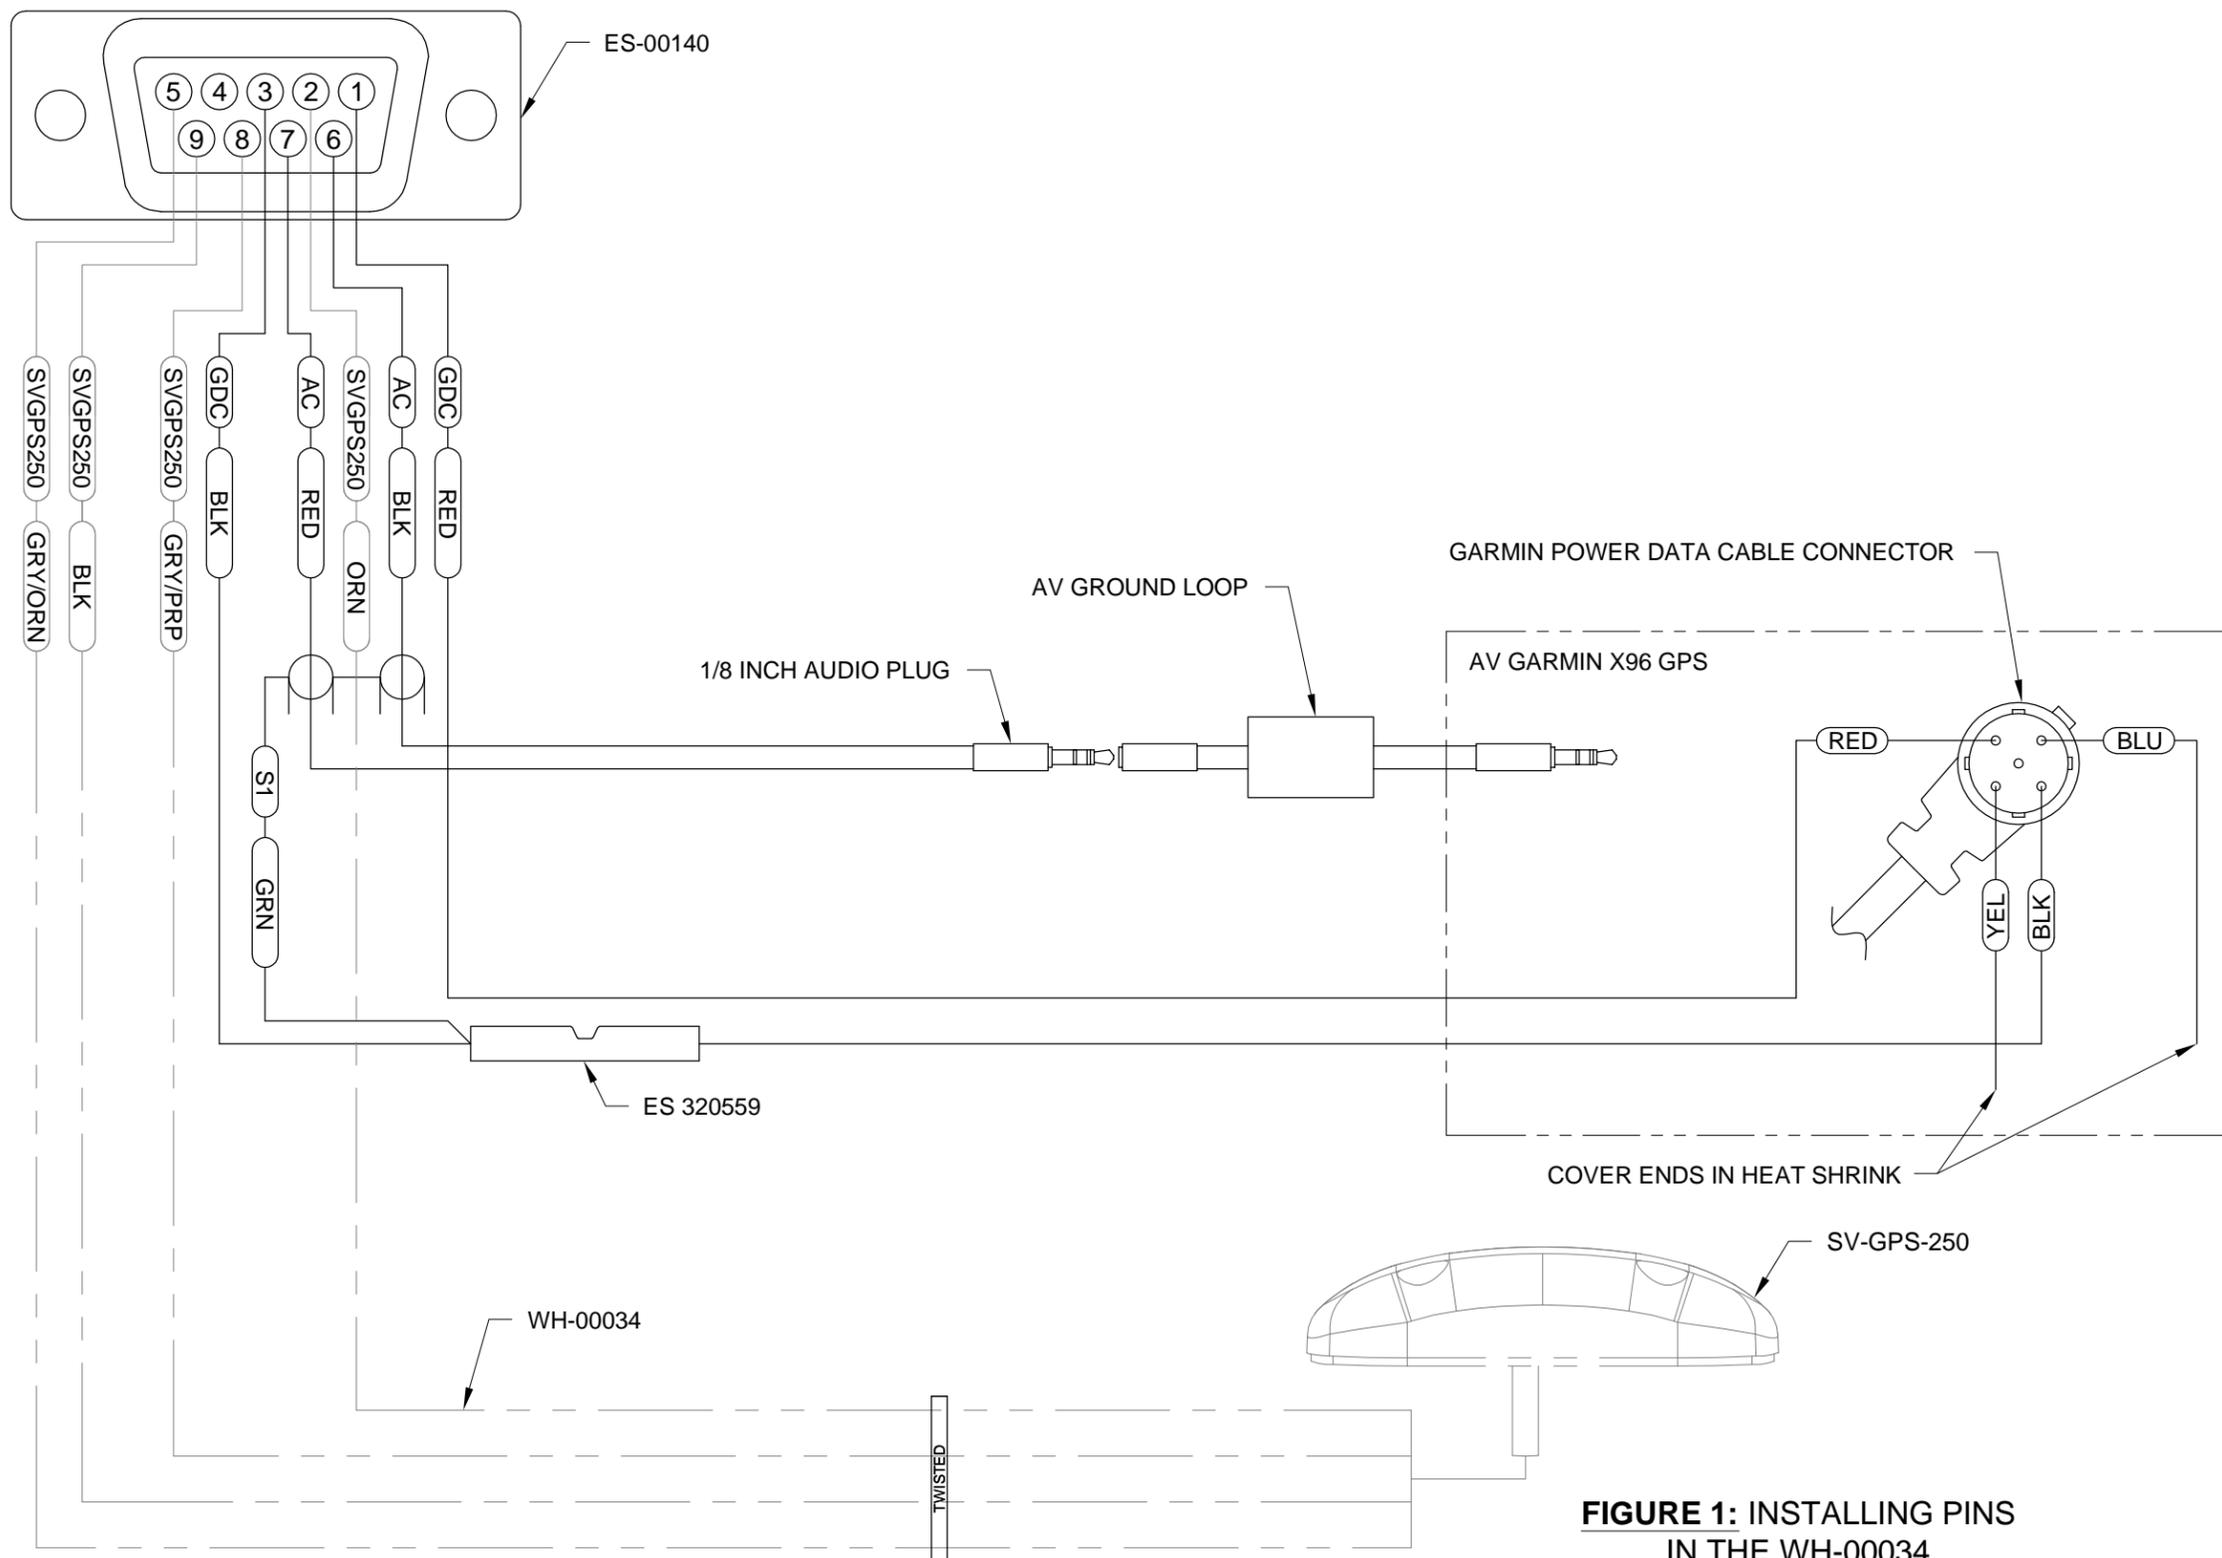

FIGURE 1: INSTALLING PINS IN THE WH-00034 CONNECTOR (REAR VIEW / PIN INSERTION SIDE)
Insert this wire into the ES-00140 9-Pin Male D-Sub on the WH-00034 SkyView GPS-250 Harness as shown in Figure 1.
Step 5: Insert the remaining wires coming from the WH-RV12-296-496 GPS Wiring Harness into the ES-00140 9-Pin Male D-Sub on the WH-00034 SkyView GPS-250 Harness as shown in Figure 1.